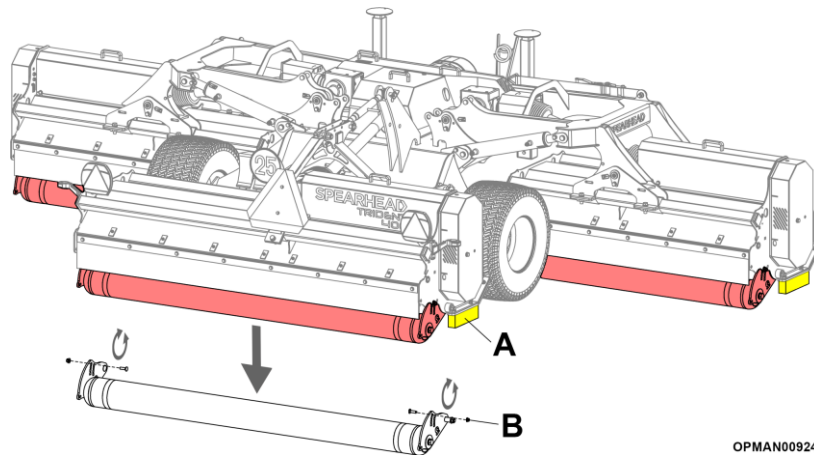

Figure 4.40 – Trident Standard Rear Roller Adjustment
With reference to Figure 4.40, to alter the minimum height of cut:
- 4.8.1.1 Fully raise the machine on all bodies using the tractor hydraulics and block all skids or rotors to protect from hydraulic failure; see Figure 4.40 (A).
- 4.8.1.3 Loosen and remove the coach bolt and nut from both ends of the roller adjuster plate; see Figure 4.40 (B).